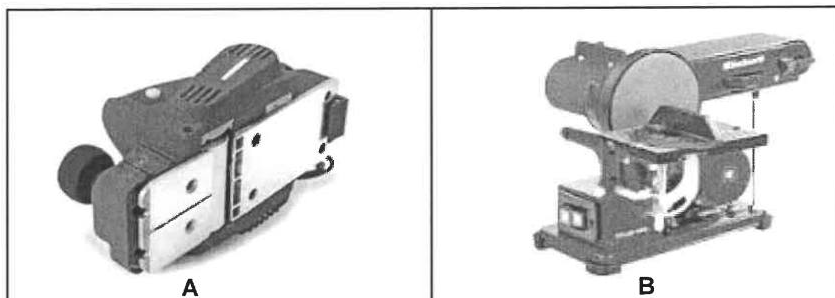

FIGURE 4.2
4.2 FIGURE 4.2 below shows TWO woodworking machines.